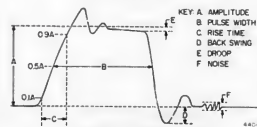

Figure 1
e.	Measure the pulse characteristics shown on figure 1. Record on data sheet.
- Measure the pulse characteristics shown on figure 1. Record on data sheet.